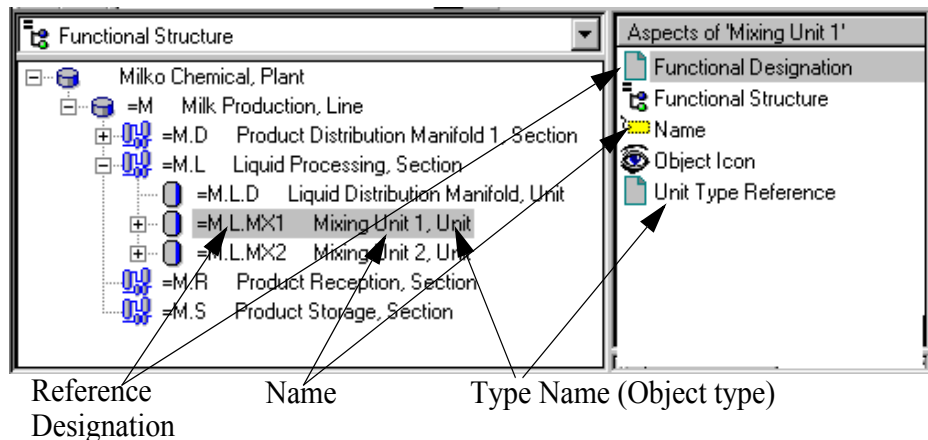

Figure 58. Identification of Aspect Objects
2. Additional identification of Aspect Objects by reference designations are kept in its own Designation aspects and optional display of the absolute reference designation. This is the preferred concept, if the customer uses reference designations according to IEC 61346. Refer to Figure 58.